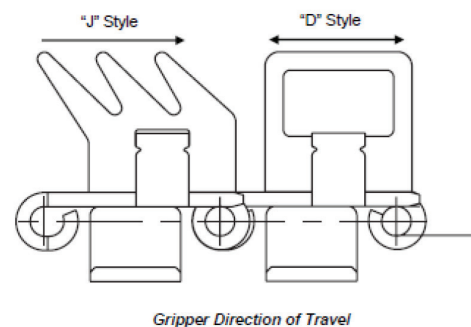

Figure 1
- Verify chain direction is correct (Figure 1)